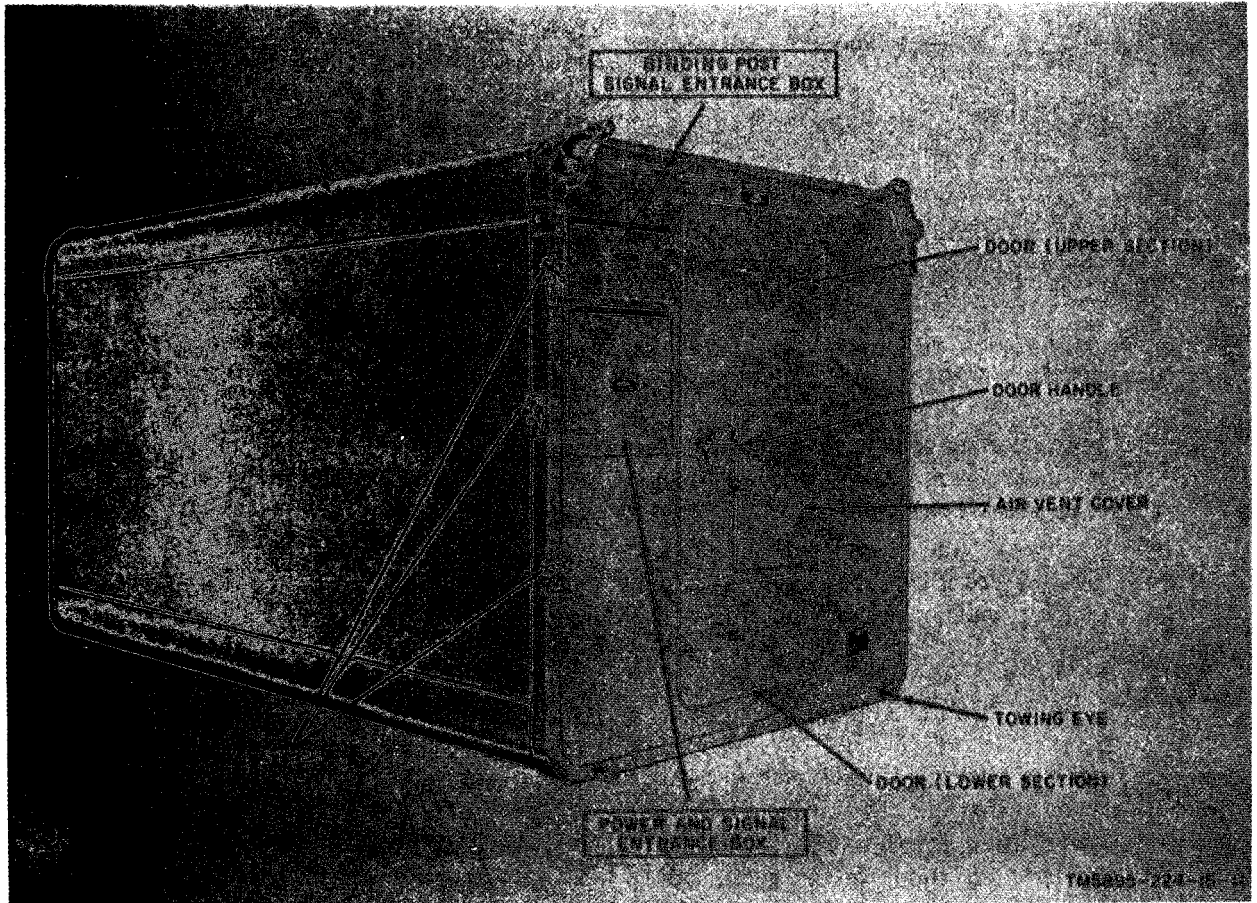
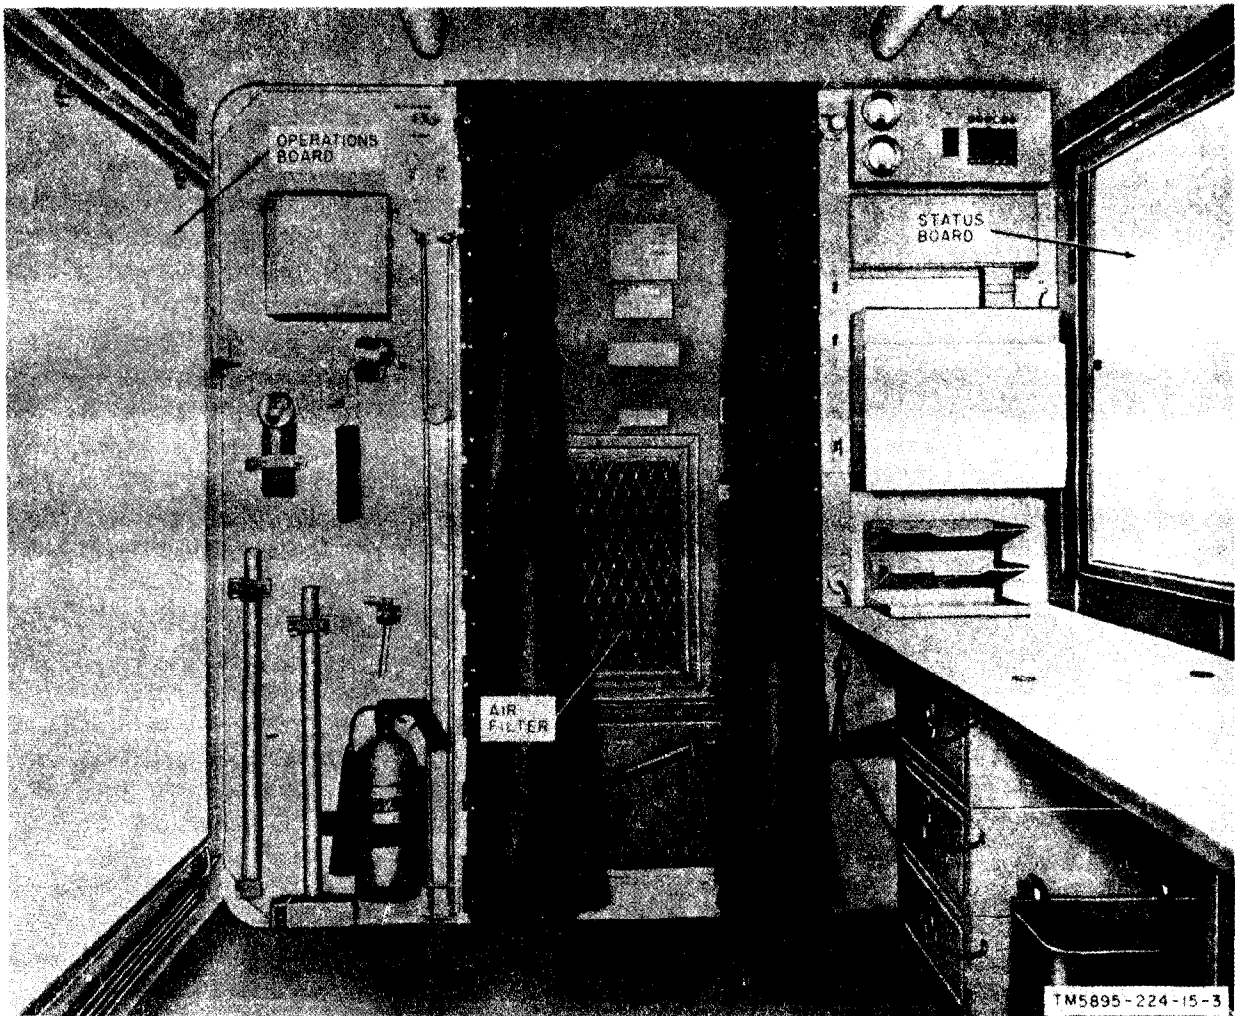

Figure 5. Operations Central AN/MSC-32.
Figure 6. Operations Central AN/MSC-32, interior rear view.
The components of Operations Central AN/ MSC-32 (para 5) are housed in Shelter, Electrical Equipment S-184/MSC-32 (fig. 5). External connections (cable and field wire) are made either at the binding post signal entrance box or at the power and signal entrance box. Alternating-current (ac) power for the shelter must be obtained from a nearby shelter or other local source. Figures 6 and 7 are interior views of the AN/ MSC-32; the location of interior components are shown in figures 11 through 16. The major components of the AN/ MSC-32 are described in paragraph 7 and the shelter components in paragraph 8.
*a. Shelter, Electrical Equipment S-184/ MSC-32* (fig. 5 and 23). The shelter is a component of the AN/ MSC-32 in which all other components (para 5) are installed. All equipment racks and mountings, ac power receptacles, and signal wiring required for mounting and operating the AN/ MSC-32 components are installed in the shelter. Storage areas and installed mounting fixtures are provided for running spares and accessory items. The shelter can be transported by helicopter or truck and is fully insulated, watertight, and airtight. Two lightweight exhaust blower vents, equipped with hinged covers and rain shields (not shown), are on the outside front wall. A two-section door at the rear permits entrance to the shelter. The upper section of the door is used when the AN/ MSC-32 is truck-mounted and the tailgate is up.
- (2) *Entrance boxes.* The power and signal entrance box (fig. 8) and the binding post signal entrance box (fig. 9) are mounted in the exterior wall of the shelter (fig. 5). Each entrance box cover is equipped with